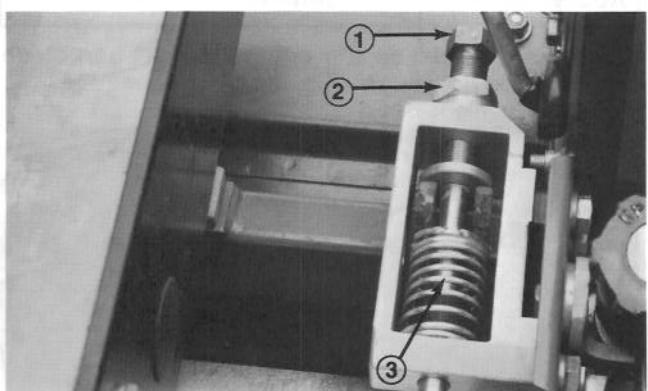
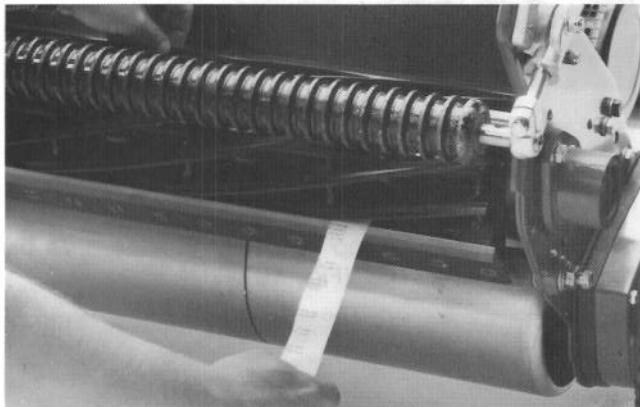

Figure 11
Figure 12
1. Position machine on a flat, level work surface. Make sure reel contact is removed by loosening jam nuts on bedknife adjusting screws and rotating adjusting screws counterclockwise (Fig. 11).
3. On one end of front side of reel, insert a long strip of newspaper between reel and bedknife (Fig. 12). While slowly rotating reel forward, tighten bedknife adjusting screw, (on same end of reel), one flat at a time, until paper is pinched lightly, which results in a slight drag when paper is pulled (Fig. 11) .
WARNING: Use caution if removing bedbar because adjusting screw springs (Fig. 11) are under tension and could release suddenly.